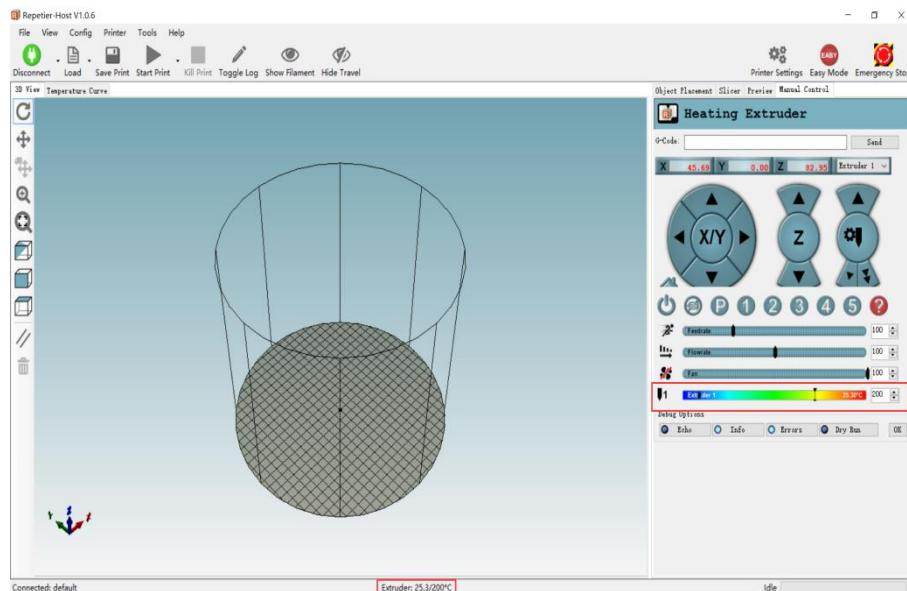

Figure 5.92 Heat the extruder
1. Set the heating temperature to 200°C on the **Manual Control** tab of the **Repetier Host** page and click  , as shown in Figure 5.92.